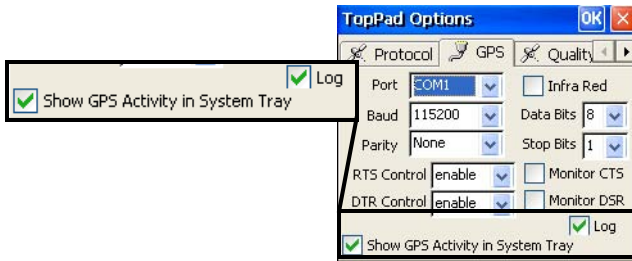

Figure 2-2. Setting Receiver GPS Options
2. Tap the *GPS* tab and enable “Show GPS Activity...” as desired (Figure 2-2 on page 2-3).